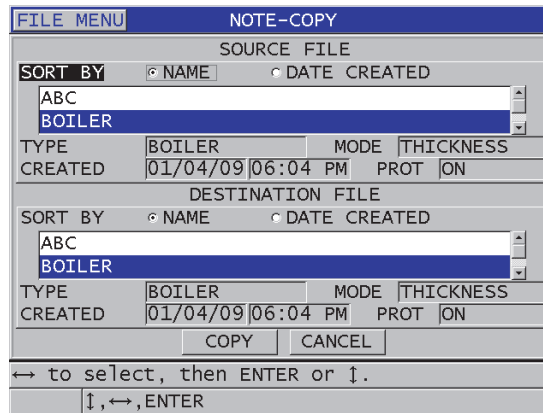

Figure 11-25 Copying a note table from one file to another
3. In the **NOTE-COPY** screen (see Figure 11-25 on page 214):